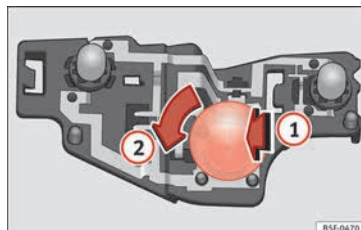

Fig. 120 Position of the bulbs in the bulb holder
- Lightly press the defective bulb into the bulb holder »» **Fig. 120 (1)**, then turn it to the left **(2)** and remove it.